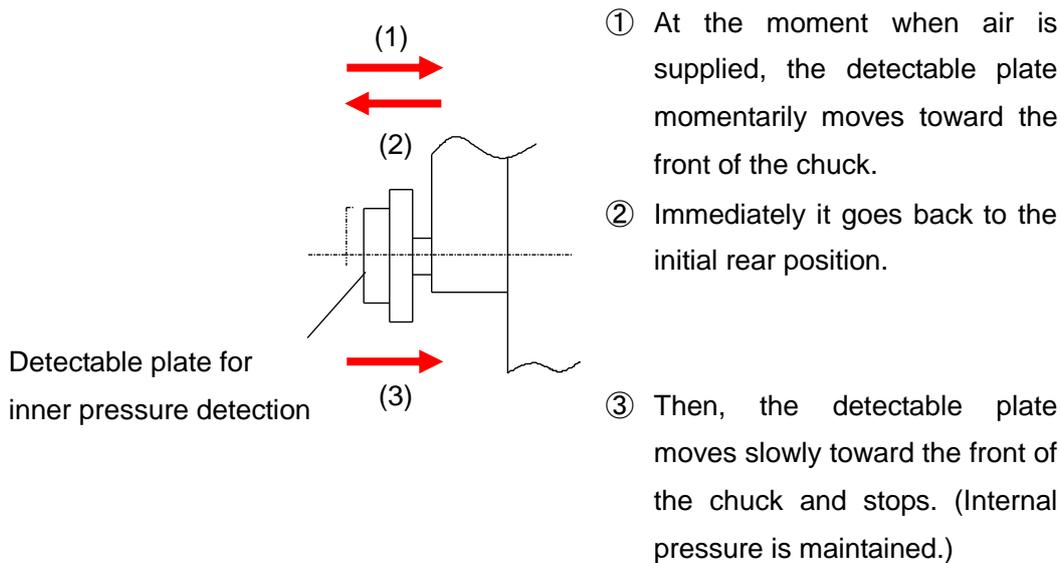

Fig.21
- The spring determines the working pressure of the detectable plate. Therefore, particularly if air is supplied at high pressure, the detectable plate may perform momentary reciprocating motion at the moment when air is supplied as shown in Fig.21. To prevent the proximity switch from detecting the momentary reciprocating motion of the detectable plate shown in Fig.21, please give consideration to keep the proximity switch from detecting for a few seconds just after air is supplied by using a timer, etc.